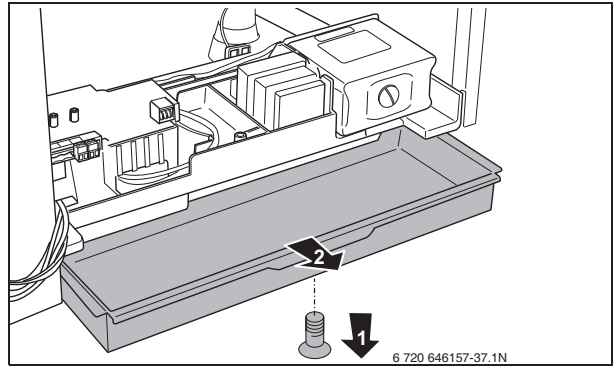

Fig. 37 Opening the drawer
- Loosen the screw (fig. 37, step 1).
- Pull open the drawer (fig. 37, step 2).